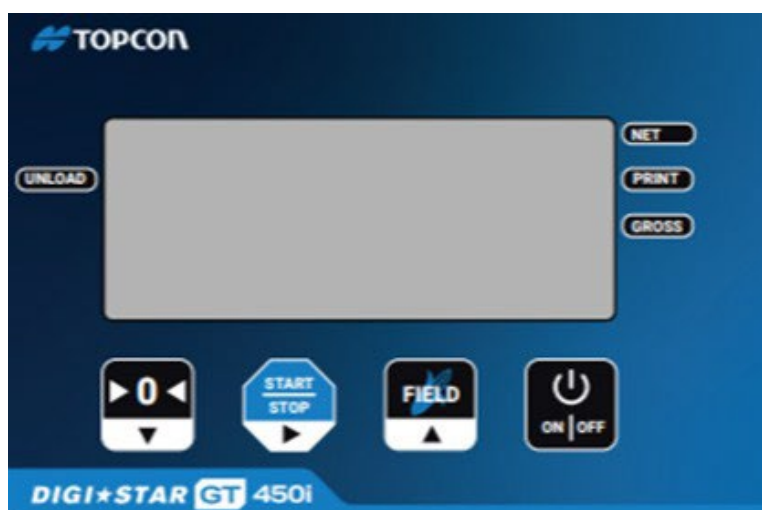

Figure 4-3: Enter New Setup Number
6. Press **ON/OFF** to enter new calibration number and display will go back to normal (Figure 4-3).